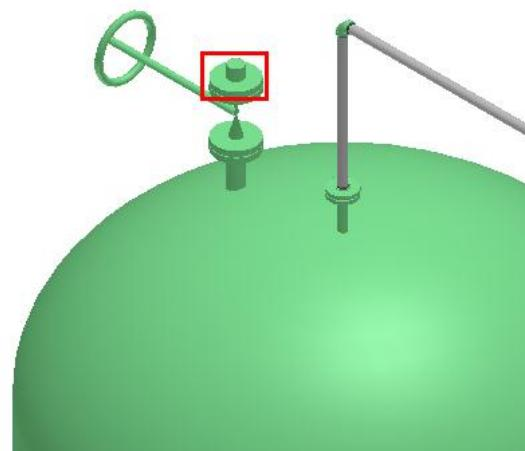

Figure 8. 12: Flange Placed on the Gate Valve
13. To let the fluid come out of the valve, place a pipe on the gate valve. Route a **1 ft** pipe from the flange placed above by using the **Route Pipe** command as shown in Figure 8. 13.